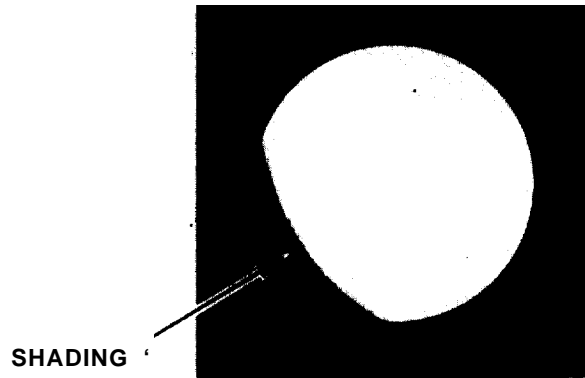

Figure 2-6. Shading.
a. Shading. When properly adjusted, the goggle should present a full circle, if shading is present, you will not see a fully circular image (see Figure 2-6). Shading always begins on the edge and move inward. *Do not* use if shading is present. Send goggle to higher level maintenance,